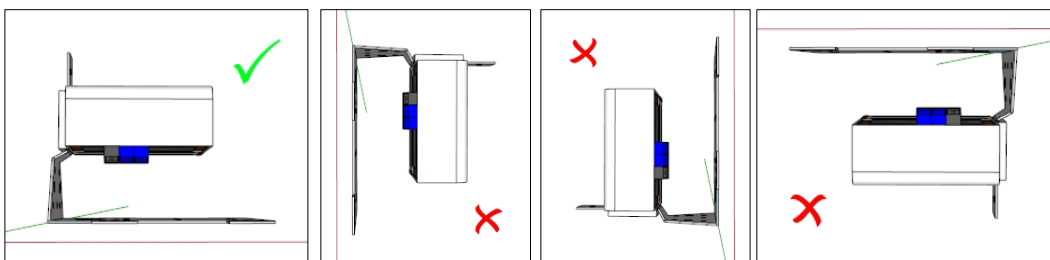

Figure 1: Mounting the Receiver
- Mount the module in the horizontal plain with the window facing downwards as shown in the Figure 1 below.